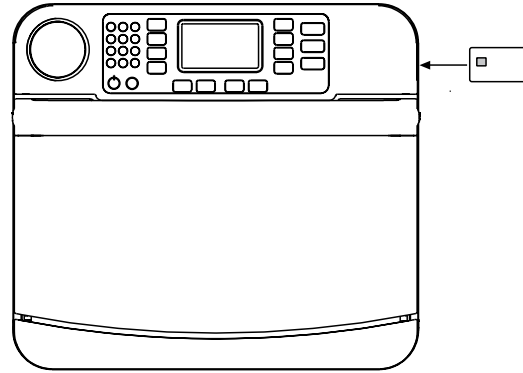

Figure 13: Smart Card Slot Location
1. Insert the smart card “1 of 3” (Figure 13).